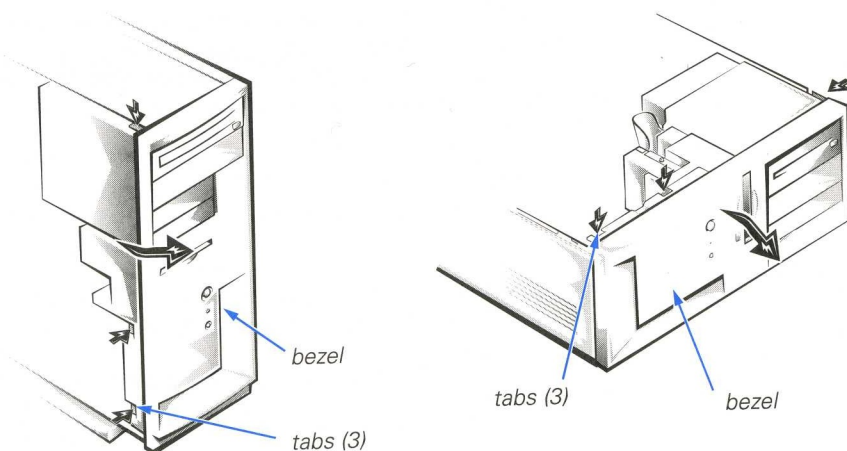

**Figure 3-1. Removing the Bezel**
2. While facing the front of the computer, press in the tabs at the top and side of the bezel as shown in Figure 3-1.